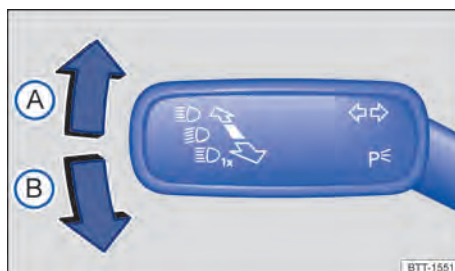

Fig. 87 On the left-hand side of the steering column: direction indicator and high beam lever.
2. Move the lever from the centre position to the desired position → Fig. 87.